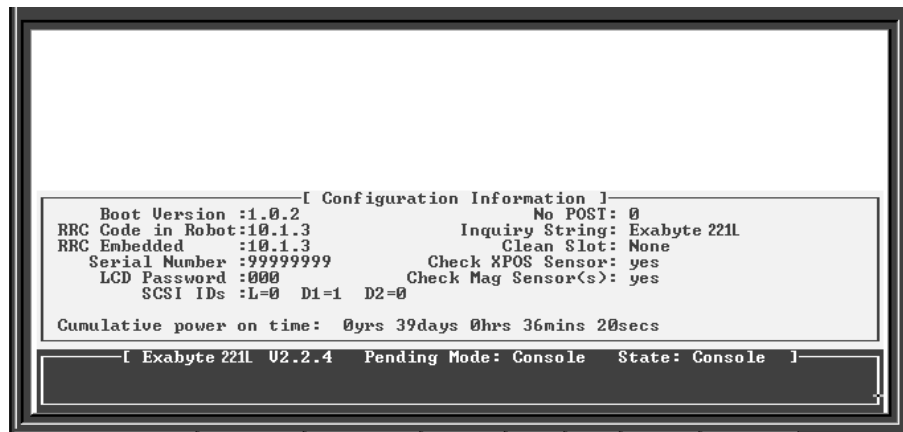

Figure 7-8 Console Configuration Information screen
2. Type `config` and press Enter. The Configuration Information screen appears, as shown in Figure 7-8. The password appears next to the LCD password field.